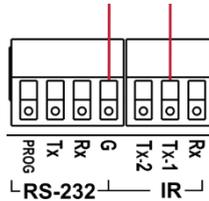

Figure 7: Connecting IR Emitter – 38kHz
- Connect the emitter wires to the WP-789T IR terminal block as illustrated in Figure 7.